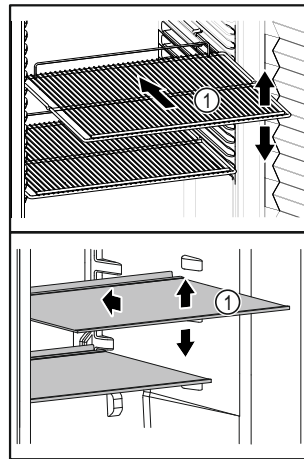

Fig. 58 Example illustration
- ❑ If storage surfaces Fig. 58 (1) are movable, adjust them according to height.